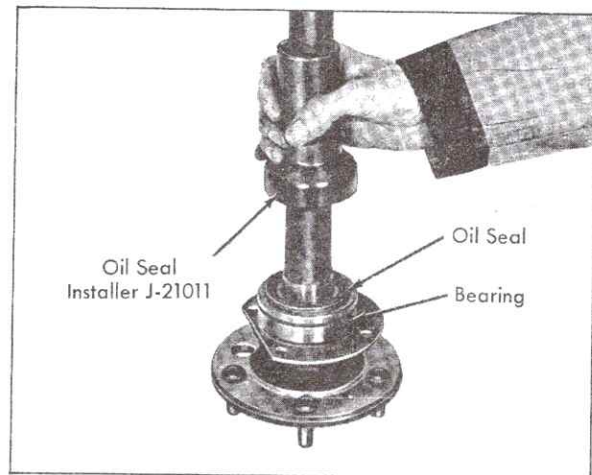

Fig. 4-33 Installing Oil Seal in Bearing
6. Install new oil seal on axle shaft with spring side of seal toward splined end of shaft. Position seal in bearing and press seal into bearing using Oil Seal Installer, J-21011, as a slide hammer, Fig. 4-33, until metal case of seal is flush with top of bearing.